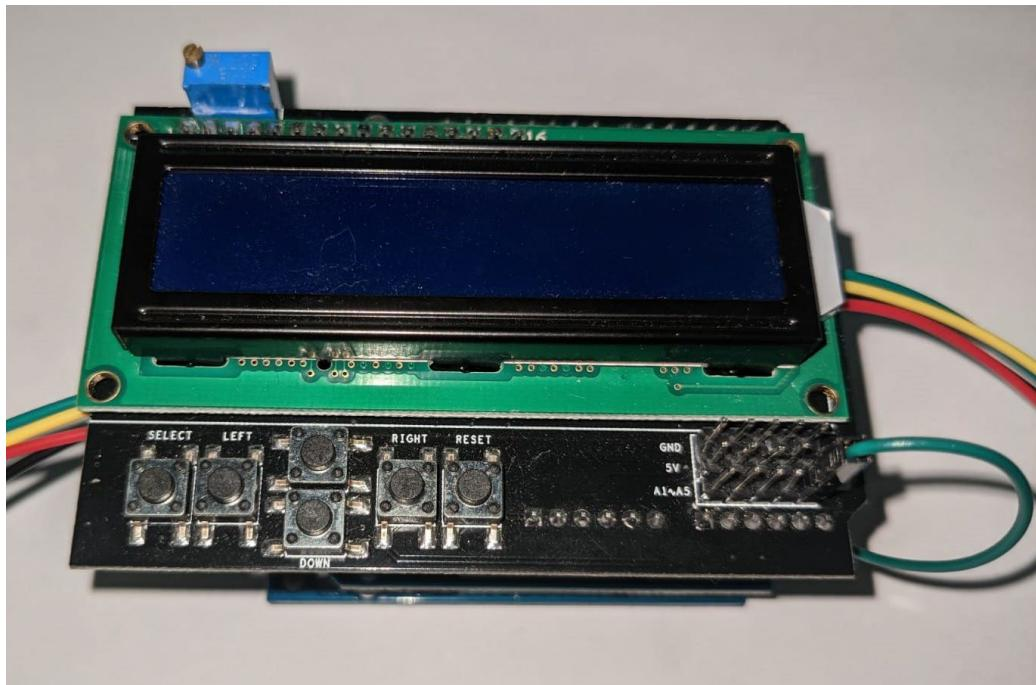

Figure 17 – Stacked LCD shield.
Step 4: The next screen shows the reading from the pressure sensor (Figure 17). Ensure the manometer is set to the pressure set in the previous step (0 mmHg). Press “ENTER” to save this value.